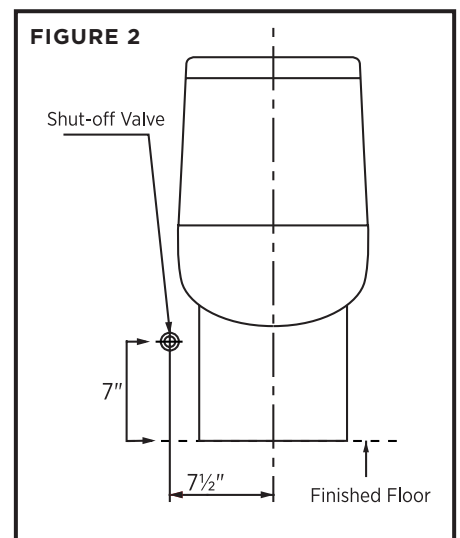

FIGURE 2
**IMPORTANT NOTE REGARDING WATER SUPPLY:** Before installation ensure that the shut-off valve is greater than 7½" from the center of the drain to the center of the shut-off valve and less than or equal to 7" from the floor (FIGURE 2).